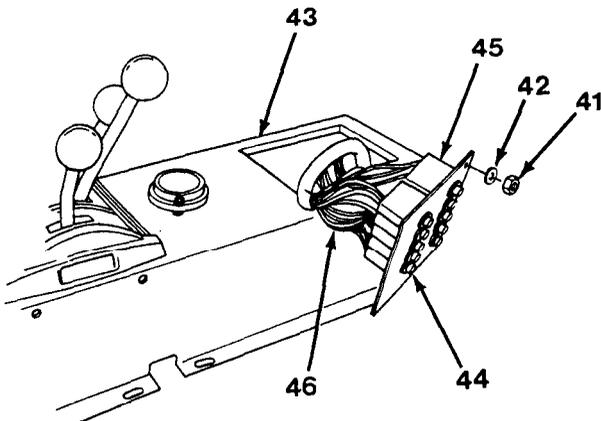

Figure 17-6
3. Installation of circuit breakers: Connect wires (46) to circuit breaker (45) and remove tags. Push circuit breaker (45) up through panel (43) and install retaining nut (44). Use same procedure to install remaining nine circuit breakers. Position panel (43) and install four washers (42) and capscrews (41, Figure 17-6).